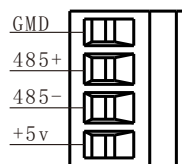

Figure 7
- The XLR5000 series soft starter is equipped with a terminal block on its left side. For detailed wiring, refer to Figure 7.